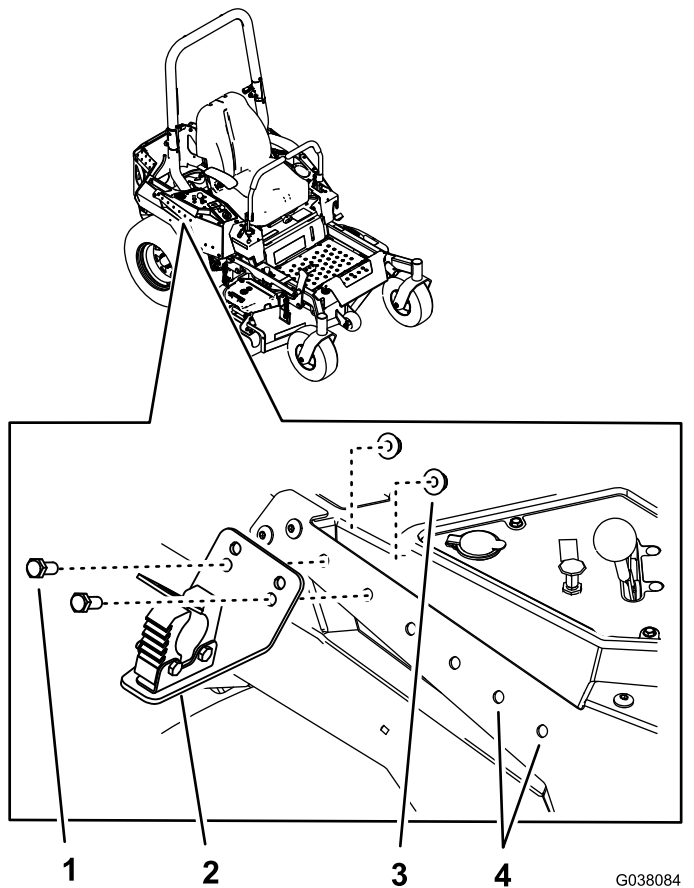

Figure 5
1. Install the rear mount assembly to the right side panel on the machine using 2 bolts (3/8 x 7/8 inch) and 2 nuts (3/8 inch) as shown in Figure 5.